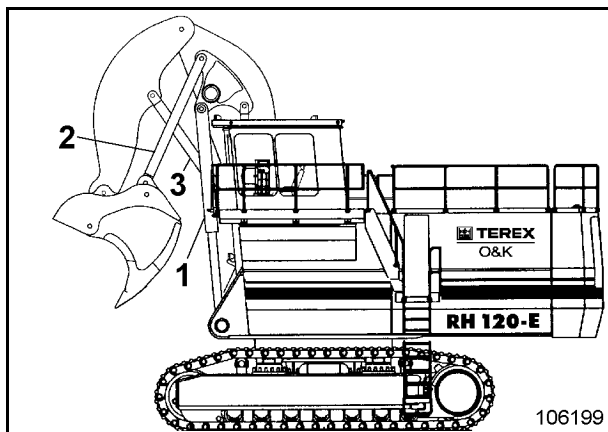
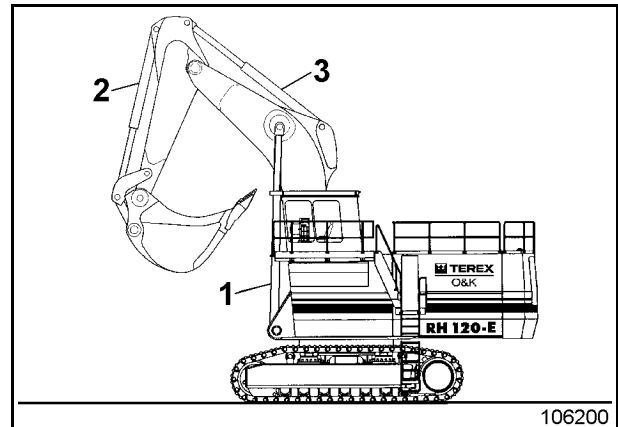

Fig. 2-87:
Fig. 2-88:
- Raise the equipment (Fig. 2-87:and Fig. 2-88:)